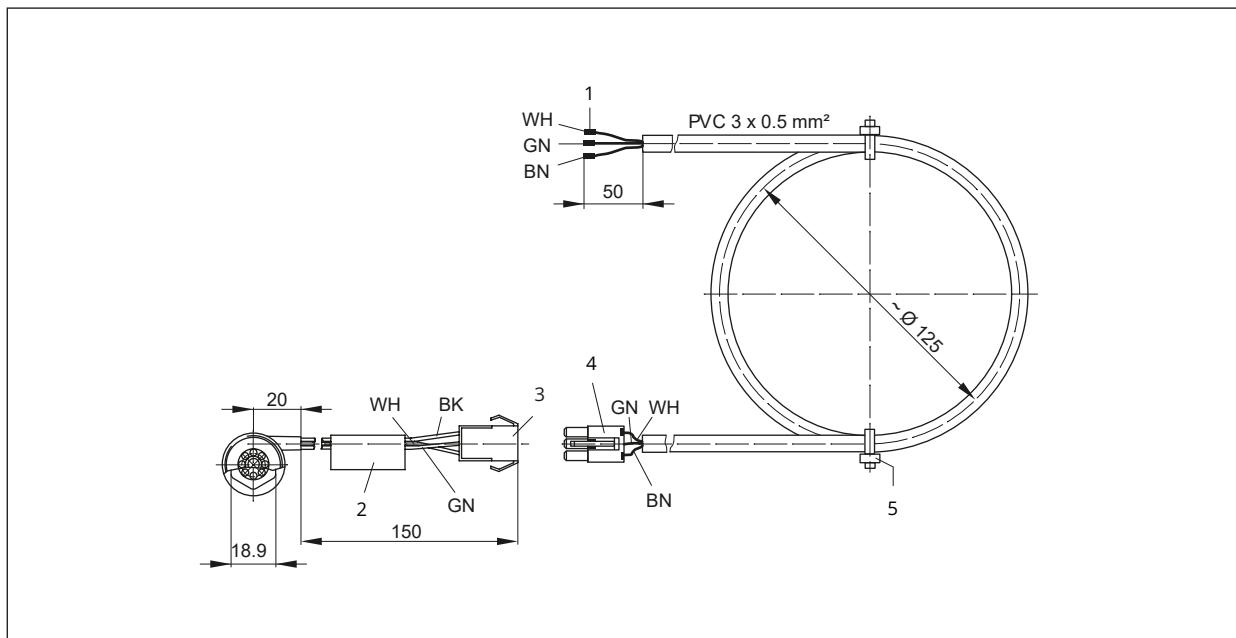

Fig. 9: Extension cable for water flow sensor
- ⇒ Connect as shown in Fig. 9.